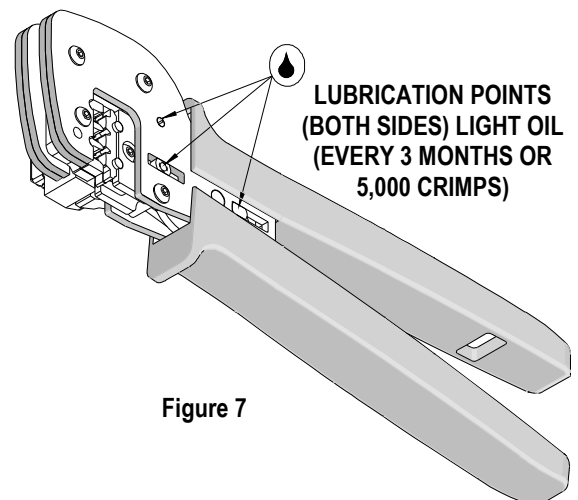

Figure 7
3. Make certain all pins, pivot points, and bearing surfaces are protected with a thin coat of high quality machine oil. Do not oil excessively. The tool was engineered for durability but like any equipment it needs cleaning and lubrication for a maximum service life of trouble free crimping. Use light oil (30 weight automotive oil), at all the oil points, every 5,000 crimps or 3 months. This will significantly enhance the tool life. See Figure 7.
Should this tool ever become stuck or jammed in a partially closed position, **Do Not force the handles open or closed.** The tool will open easily by rotating the small slotted screw marked with an arrow. See Figure 7.